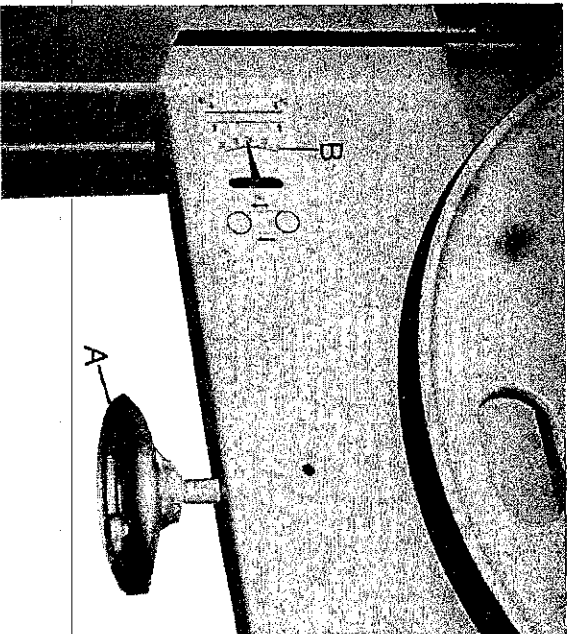

FIG 10
3. Turn handwheel "A", FIG.10, until pointer on scale "B" points to the corresponding width of blade being used. Blade is then tensioned correctly.